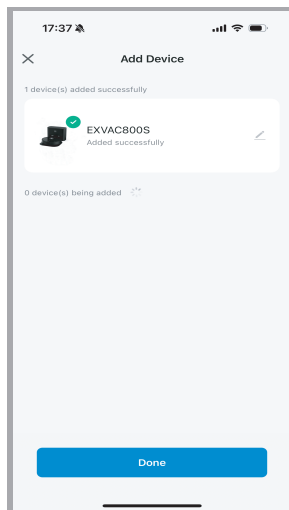
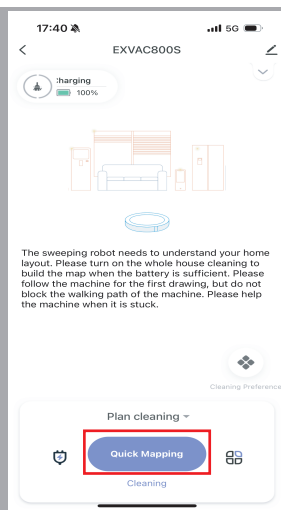
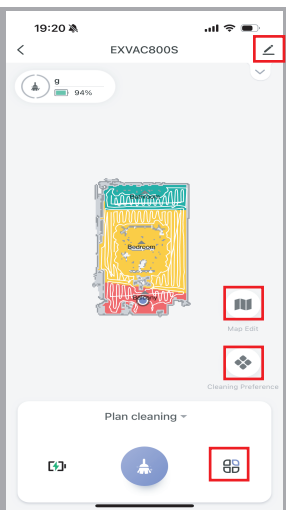

Fig.9
Fig.10
Fig.11
4). The App will connect the robot automatically (Fig.9, Fig.10).
A). Enter the interface of Fig.10, it provides users visibility of all operation buttons. Please place the robot on the station and make it fully charged, then **use “Quick mapping” to start cleaning** when you use the robot **at first time** or after you “reset home map”, it will create a map of the room automatically (Fig.11).